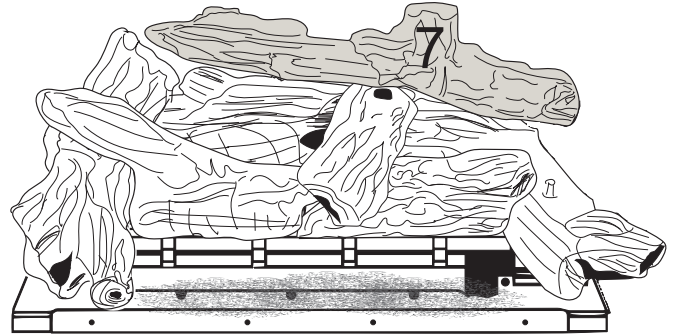

Figure 8 - Log #7 Placement
8. Hold log #7 with the pointed end to the left and the flat end toward the bottom. Place log #7 by positioning the two pin locator holes on the bottom of the log over the pins on log #1 and #2. See Figure 8.